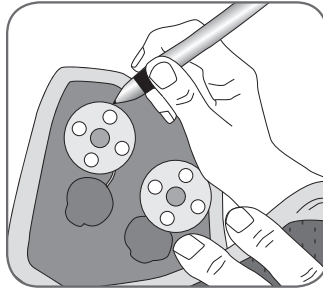

Figure 9-6: Marking the position of the used L300 electrode bases.
1. Mark the position of the used L300 electrode bases on the L300 FS Cuff liner. See Figure 9-6.